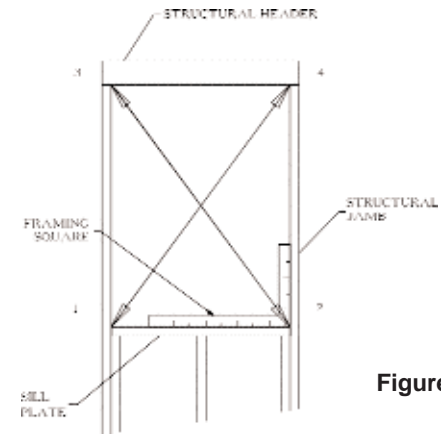

Figure 1
2. Check the squareness with diagonal measurements (see figure 1). The difference between 1 to 4 and 2 to 3 should not exceed  $\frac{1}{4}$ ". If the R.O. does not conform to these requirements, it must be modified so that the sill is square to the floor within tolerance and the diagonals are within the  $\frac{1}{4}$ " allowance.